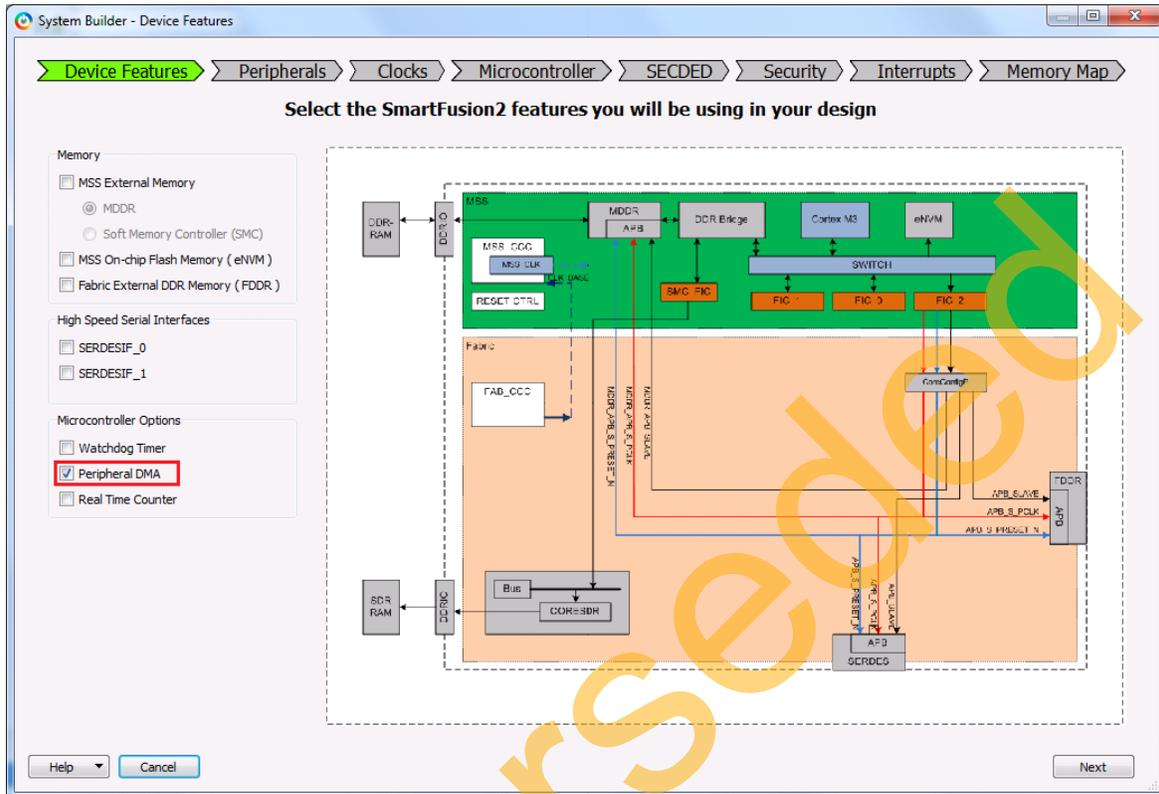

Figure 6 • System Builder – Device Features Page
9. In the **System Builder – Device Features** page, select the **Peripheral DMA** check box under **Microcontroller Options** as shown in Figure 6.